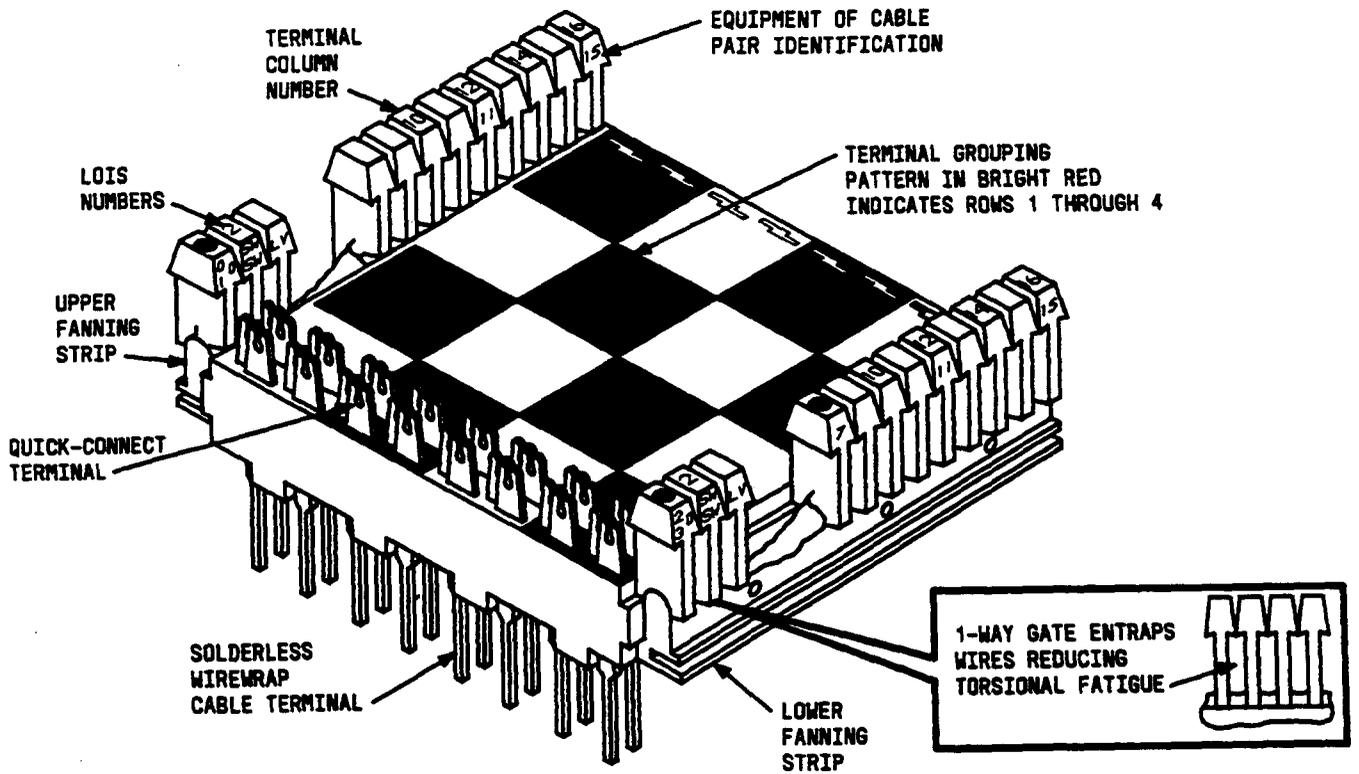
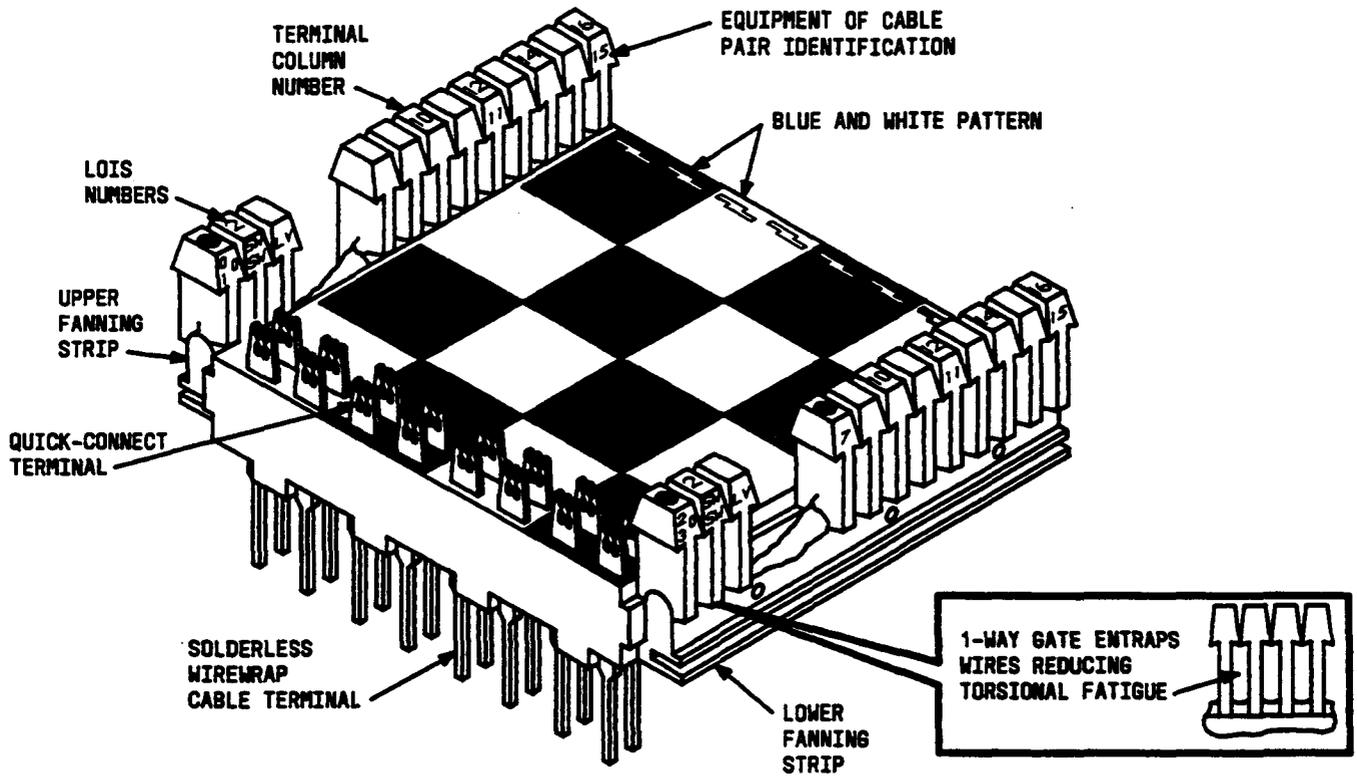

Figure 3—78-Type Connecting Block Features
Figure 5—112-Type Connecting Block Features
2.07 Figures 3 and 4 show the 78-type connecting block features and the 4-beam terminal used on the block, and Figures 5 and 6 show the 112-type connecting block features and the 3-beam terminal used on the block.